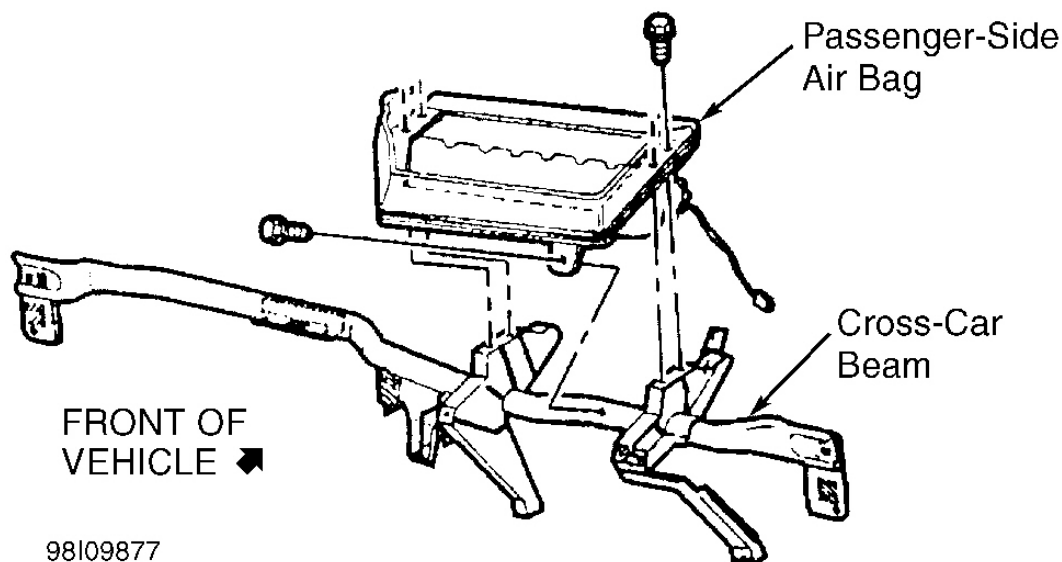

Fig. 12: Removing Passenger-Side Air Bag Module
2. Remove passenger-side air bag module trim cover. Remove fasteners and passenger-side air bag module. See **Fig. 12** . Disconnect air bag module tether from air bag module.